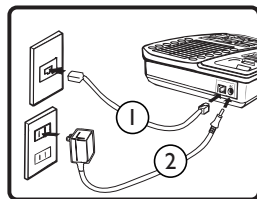

Figure 2
1. Plug one end of the long flat telephone line cord into the jack marked LINE located on the back of the telephone. Plug the other end into the telephone wall jack. See Figure 2
2. Insert the plug of the AC adapter into the jack marked DC 9V located on the back of the base unit. Then plug AC adapter into wall outlet. See Figure 2.